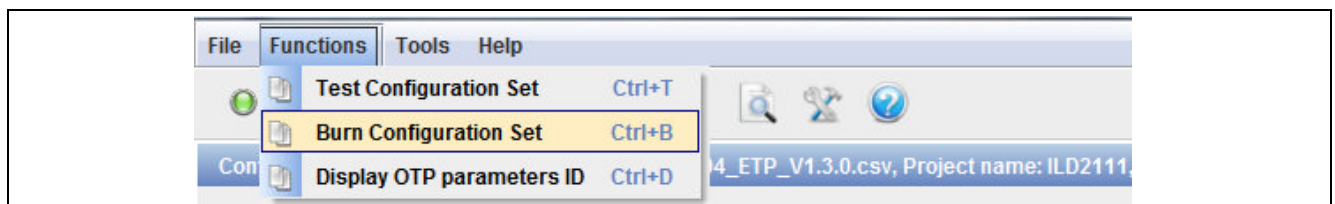
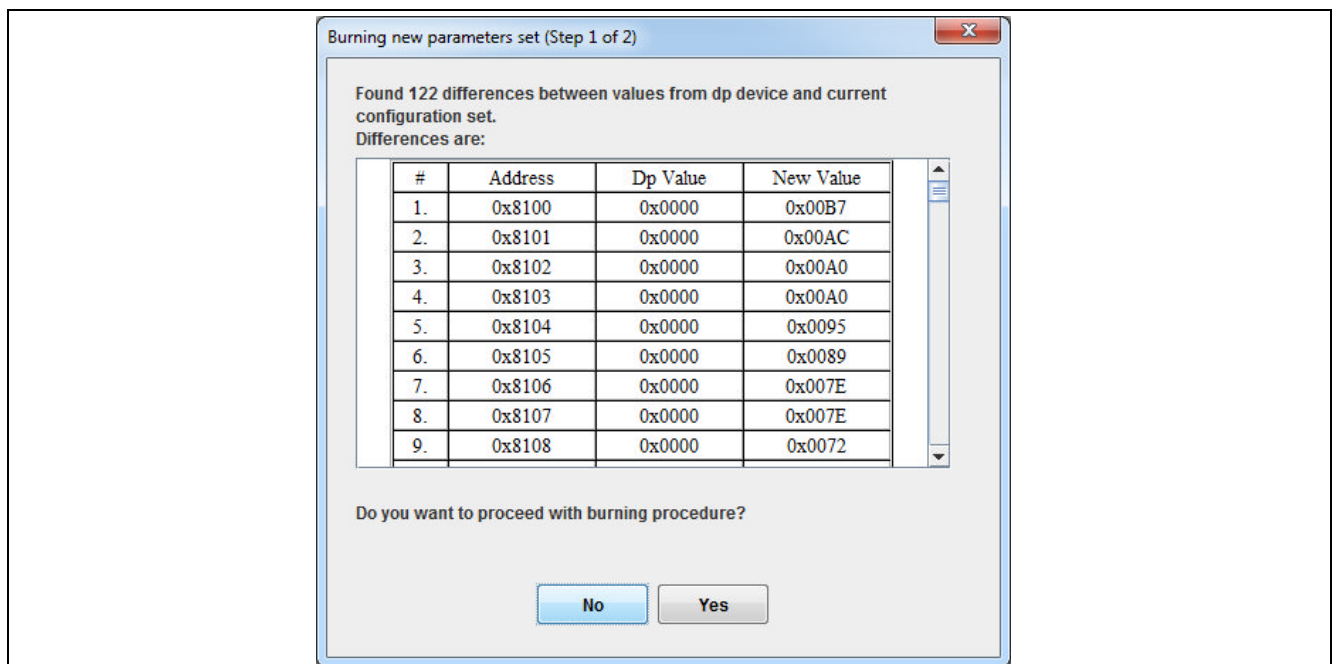

Figure 39 Burning a New Configuration Parameter Set
Figure 40 Burning a New Parameter Set – Step 1
1. Select “Functions -> Burn Configuration Set” – see Figure 39. The differences between values from the chip and current configuration set will be displayed in the appropriate window – see Figure 40.